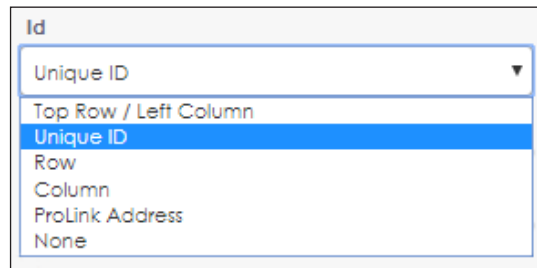

Figure 70: Module Identification
7. Choose the module identification method from the **Id** drop down list to make it easier to identify modules that need adjustment. Refer to **Figure 70**.